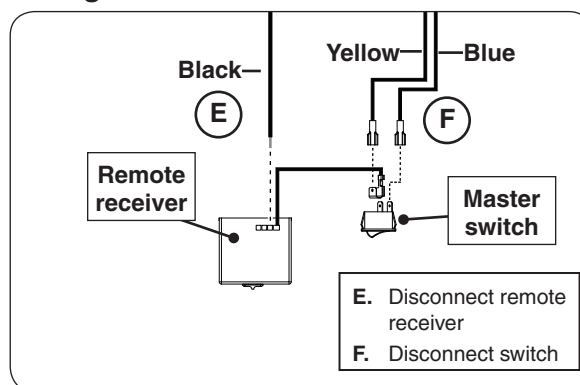

Fig. 44-3 Disconnect receiver & switch wires
3. Locate the remote receiver on the control panel, remove the 2 hex screws using a $\frac{1}{4}$ " nut driver, then pull the receiver (and bracket) out of the control panel. Disconnect the receiver and switch wires as shown in Fig. 44-3, E-F. The valve box can now be pulled away from the unit. Proceed to step 4 on the next page.